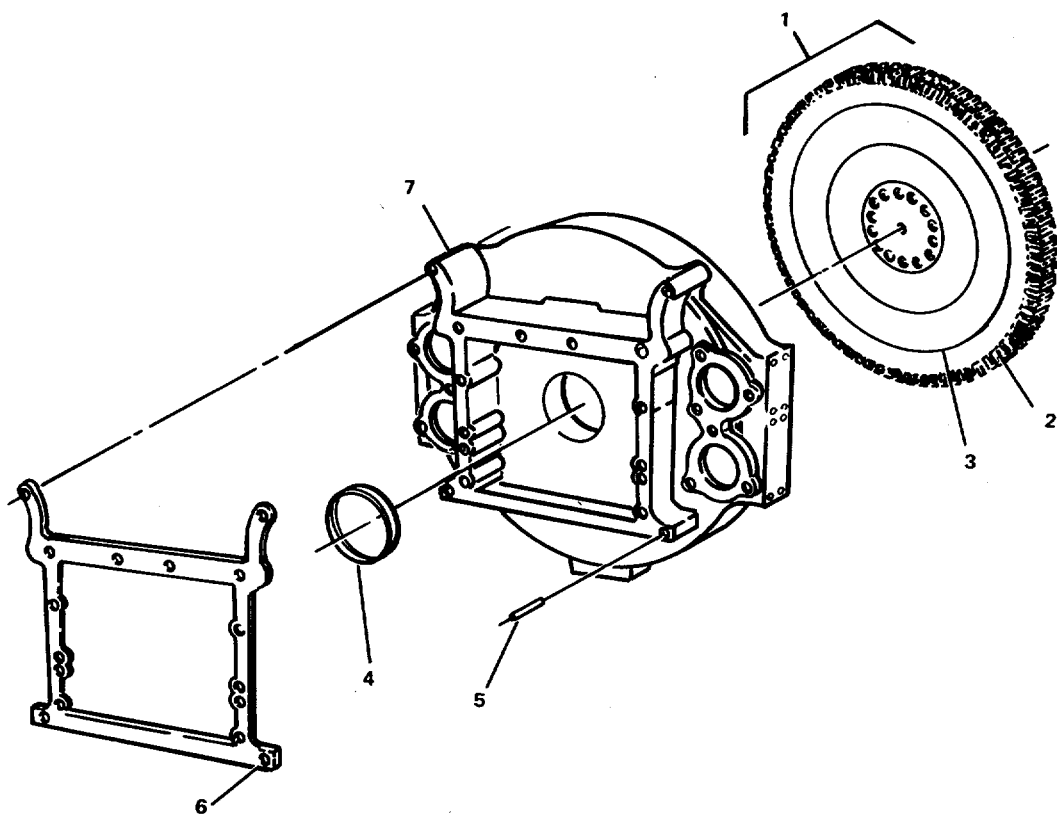
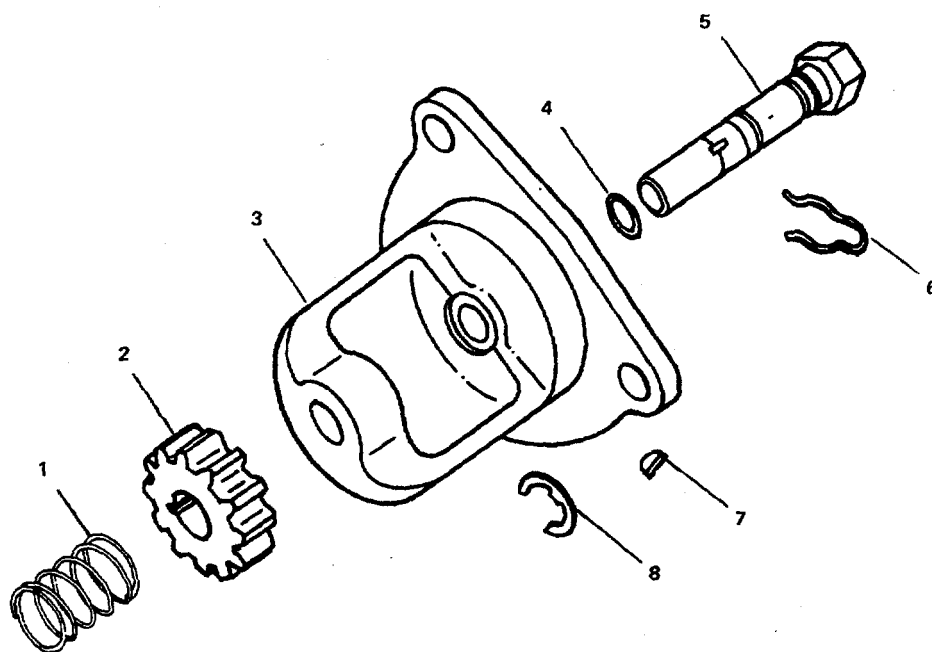
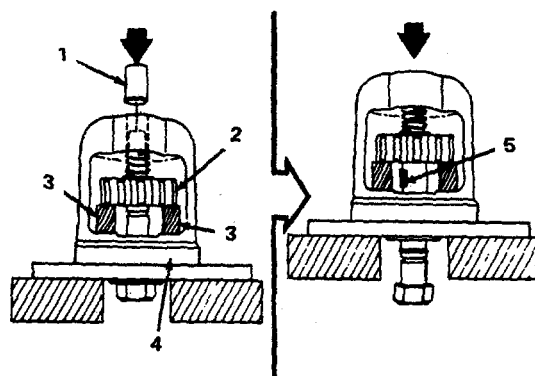

FIGURE 4-72. Flywheel Housing/Flywheel and Ring Gear Assembly.
FIGURE 4-73. Barring Mechanism.
FIGURE 4-74. Barring Mechanism Shaft Removal.
- a Flywheel and ring gear assembly (1, FIG. 4-72).
- (1) Inspect the ring gear (2) for broken or cracked teeth.
- (2) Inspect the flywheel (3) mounting area by the dye penetrant method. Check for cracks around the mounting holes of the pilot.
- (g) Place flywheel and ring gear assembly (1) aside to cool.
- (4) If cracks or other defect are found in the flywheel (3), replace with a new component.
- b. Barring mechanism (FIG. 4-73).
- (1) Check the barring mechanism gear (2) for worn or broken teeth.
- (2) Check the spring (1) for adequate tension.
- (3) Check the shaft (5) for evidence of wear or other physical damage.
- (4) Disassemble barring mechanism, if required.
- (a) Remove retaining clip (6).
- (b) Push shaft (5) in and remove gasket (4).
1/8-inch steel pipe couplings may be used for the supports (3, FIG. 4-74).
- (c) Place supports (3) between the gear (2) and the housing (4). The supports must be a minimum of 13/16 inch (21 mm) long to allow the key (5) to clear the gear (2) and not contact the housing (4).
- (d) Use an arbor press and mandrel (1) to push the shaft until the key (5) is exposed. Remove the key (5) and the supports (3).
- (e) Remove shaft (5, FIG. 4-73), spring (1), gear (2) and retaining ring (8).
- (g) Measure gear (2) inside diameter. Verify diameter is between 0.739 inch (18.77 mm) and 0.740 (18.80 mm).
- (h) Measure outside diameter of gear step of shaft (5). Verify diameter is between 0.7410 inch (18.821 mm) and 0.7415 inch (18.834 mm).
- (5) Assembly barring mechanism (FIG. 4-73).
- (a) Install gasket (4) on shaft (5). Ensure gasket is in the second groove from the hex end of shaft.
- (b) Install spring (1) and gear (2) in housing (3).
- (c) Lubricate gasket (4) and shaft (5) with clean engine lube oil. Install shaft (5) through housing (3) and in gear (2) until step in shaft touches gear.
- (e) Install supports (3, FIG. 4-74). Use an arbor press. Push shaft (5, FIG. 4-73) into the gear (2) until the end of the key (7) is even with the side of the gear.
- (f) Remove supports (3, FIG. 4-74).
- (g) Push shaft (5, FIG. 4-73) in until groove for retaining ring (8) is exposed. Install retaining ring (8).
- (h) Push shaft (5) out until the retaining ring (8) touches housing (3). Install retaining clip (6).
- c. Flywheel housing (7, FIG. 4-72).
- (1) Check rear seal (4) and gasket (6) for wear or evidence of leaks. If rear seal (4) or gasket (6) are found to be unserviceable, replace (para. 3-26).
- (2) Check dowels (5) for breaks or excessive wear. If defective dowels (9) are found, perform the following actions:
- (a) Use a dowel pin extractor to remove the two dowels (5) and measure dowel pin so that oversize dowel pin can be determined.